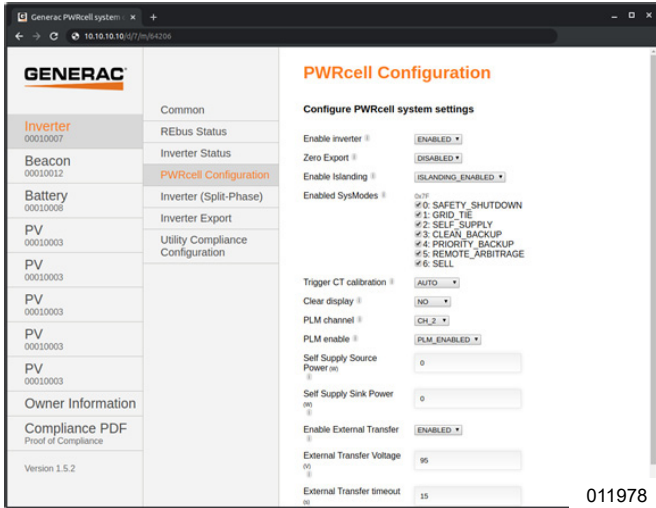

Figure 6-30. PWRcell Configuration
- See Figure 6-30. To adjust a setting, click on it, select the desired change, and click Submit. Any changes selected to be made, will not be implemented unless Submit is selected at the end.